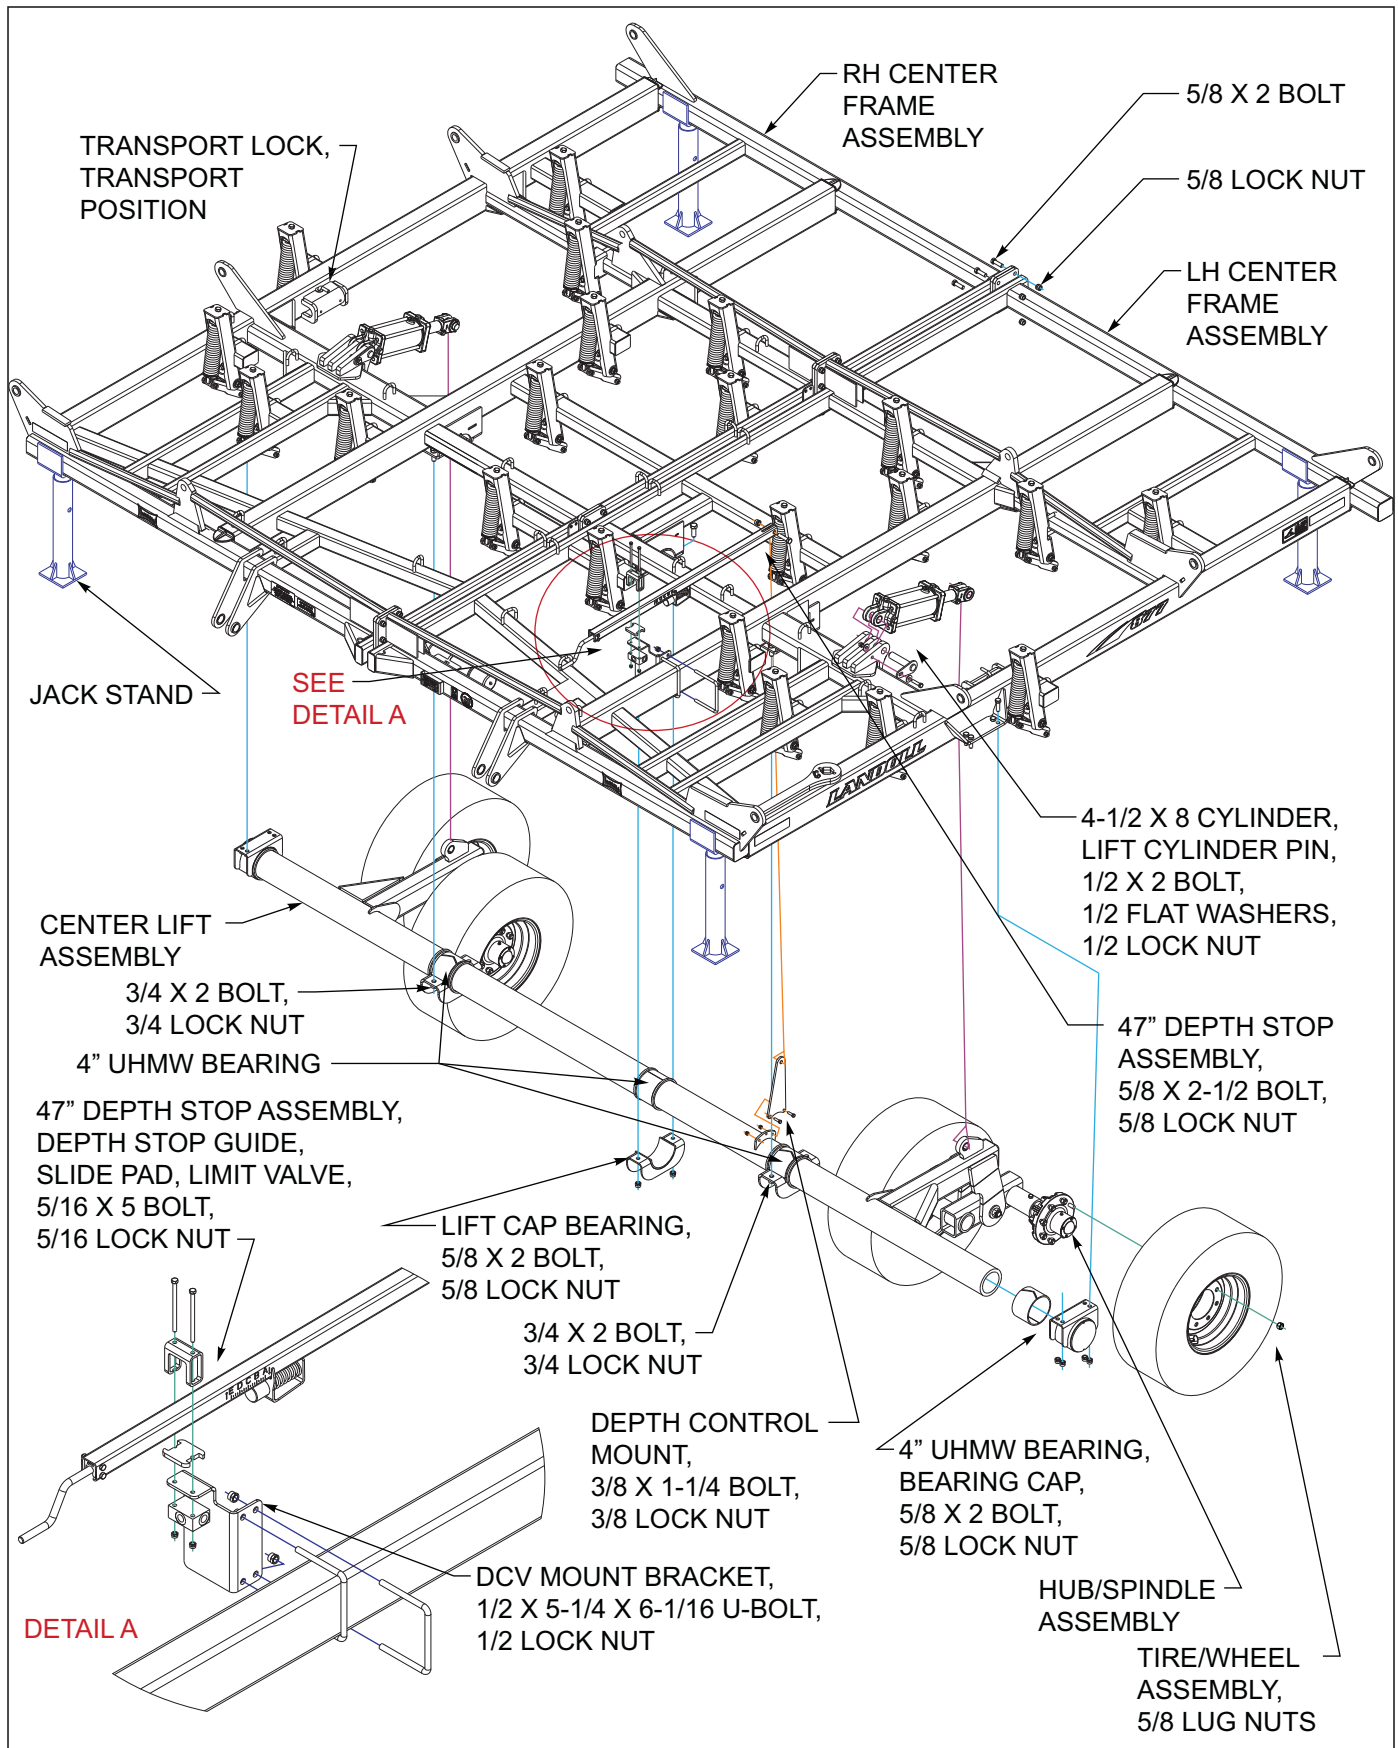

Figure 3-2: Center Frame Assembly
1. Place the LH and RH center frame assemblies on stands approximately 36" off the ground *See Figure 3-2*. Bolt the two halves together using 5/8 x 2 bolts and lock nuts.
9. Fasten the limit valve on bottom of DCV mount bracket, secure with 5/16 x 5 bolt and lock nut *See Figures 3-2*
11. Align the holes in the base end of 4-1/2 x8 master cylinders with holes in welded lugs on center frame. Ensure ports are facing upwards. Secure with lift cylinder pin, 1/2 x 2 bolt, 1/2 flat washers and 1/2 lock nut. Attach rod end of cylinders to lug on center lift assembly with cylinder pins and roll pins provided with cylinders *See Figure 3-2*.